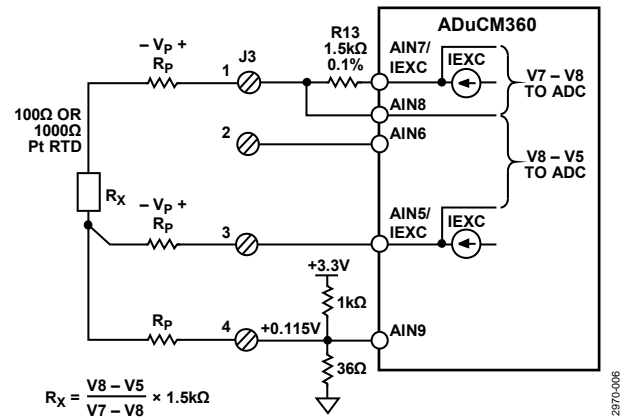

Figure 6. Configuration for 3-Wire RTD Connection
The 3-wire connection is another popular RTD configuration that eliminates lead resistance errors, as shown in Figure 6.
- b. 3-wire RTD (see Figure 6): connect the positive current excitation wire to J3 Pin 1. Connect the negative current excitation wire to J3 Pin 4. Connect the negative voltage sense wire to J3 Pin 3.